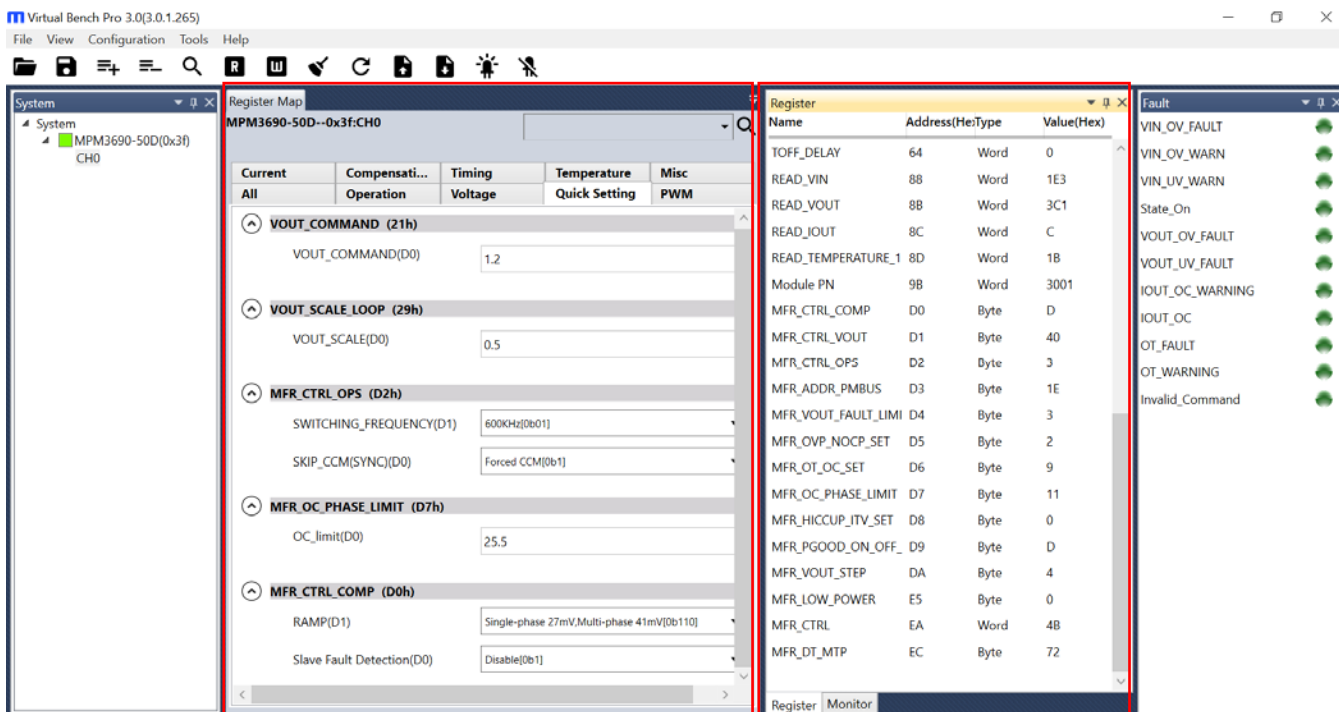

Figure 4: Register Control Menu and Register Values
- The Register control menu should appear in the middle panel. The values stored in the registers of the module are read automatically (see Figure 4).